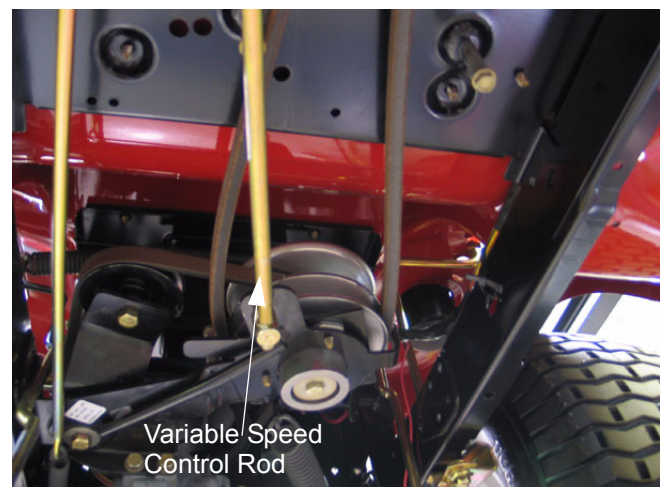

Figure 12.1
12.1. Because of the change of tensions with new belts it is always advisable to check all drive adjustments after changing the drive belts. See Figure 12.1.